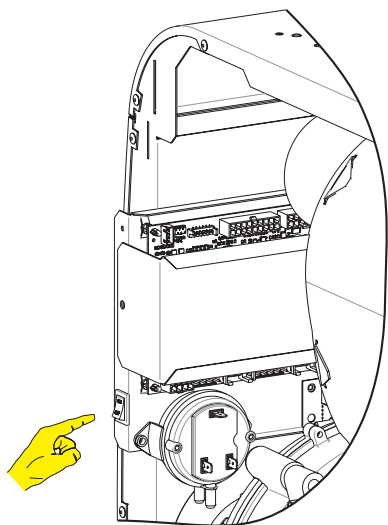

Figure 10
1. When the main power switch is turned on, the red and green control board LED's will begin to flash alternately. If using the FRBTPL Remote accessory (page 15) the remote receiver will search for the remote transmitter's signal. **See Figures 10 and 11.**